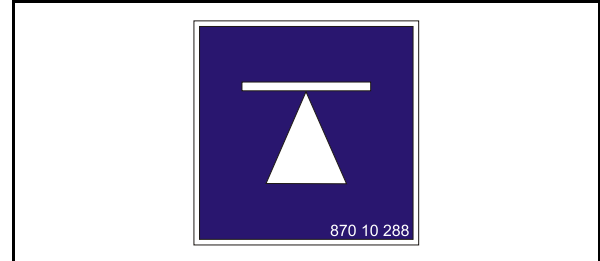

Fig. 106
2. Place the lifting device at the fixing points marked by the pictograph illustrated in (Fig. 106).